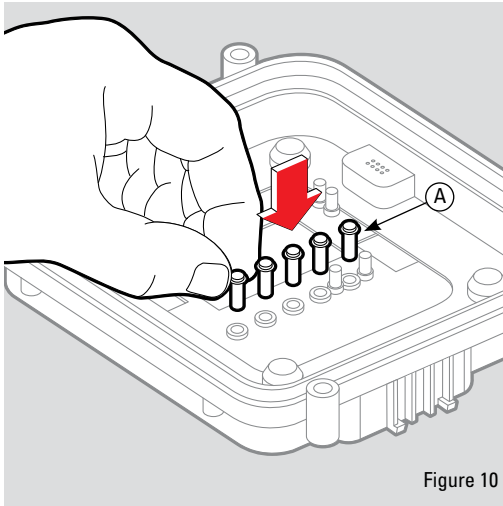

Figure 10
With the front cover upside down, insert the buttons (A) back into the front cover with the clear end of the button facing down as shown in figure 10